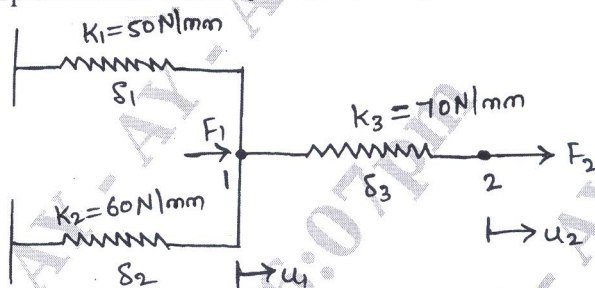

Fig Q2(b)
- b. For the spring system shown in Fig Q2(b) using principle of minimum potential energy, determine the nodal displacements Take $F_1 = 75\text{N}$ and $F_2 = 100\text{N}$